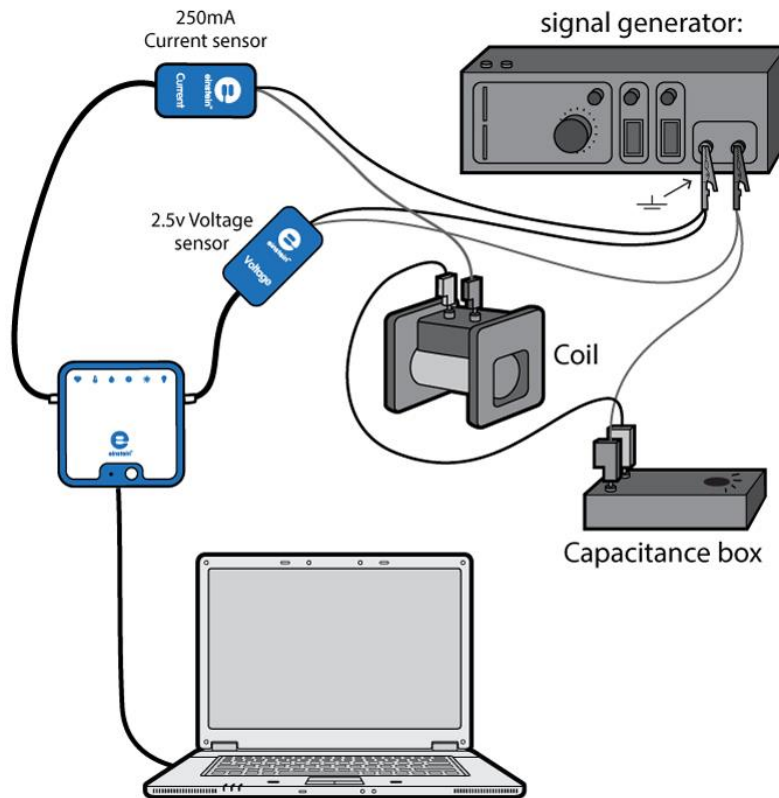

Figure 1
1. Detach the Voltage sensor from the terminals of the capacitor and connect them to the terminals of the signal generator (points A and B in Figure 1). The negative terminal (black) of the Voltage sensor should be attached to point A and the positive terminal (red) should be attached to point B. Leave the other Voltage sensor connected to the terminals of the resistor.